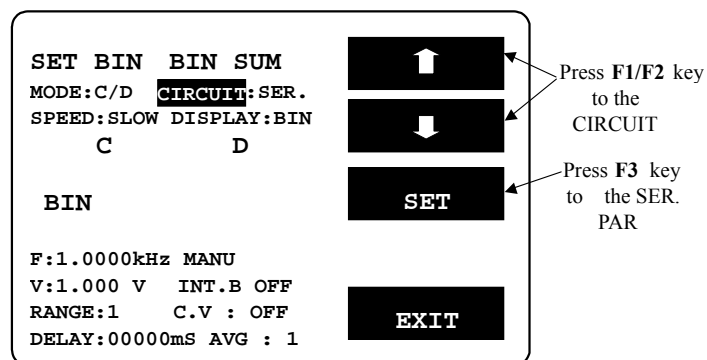

Figure 8-3
- Press F3 key to select SER or PAR shown as Figure 8-3 below. For further details, please refer to 4-4-2